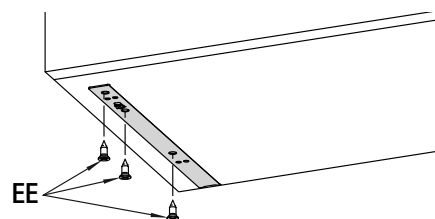

Fig. 16-5
- Secure the bracket to the cabinet using a Phillips screwdriver and 3 supplied countersunk wood screws (EE) as shown in fig. 16-5.